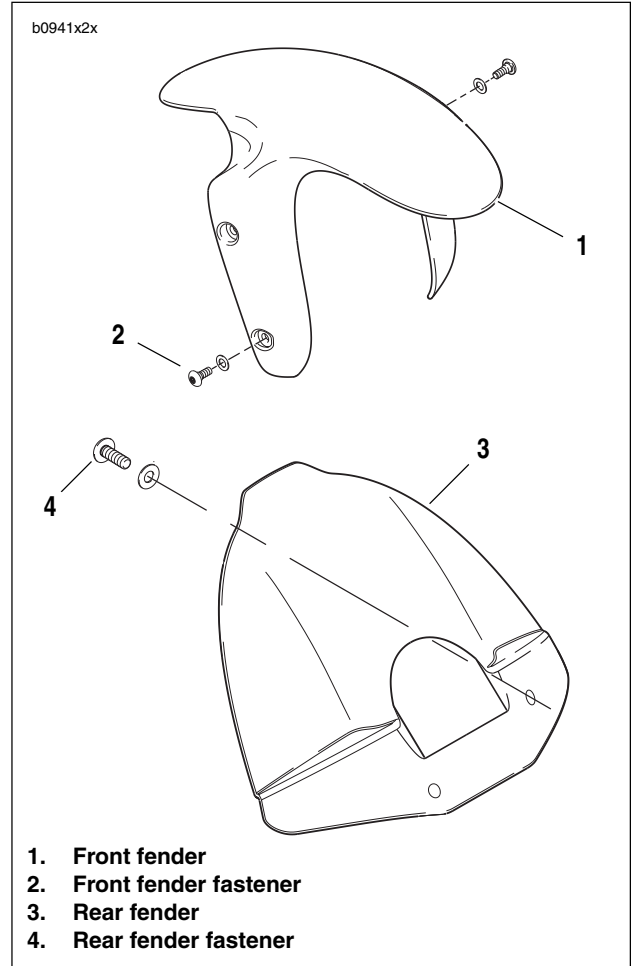

Figure 2-116. Front and Rear Fender
1. See Figure 2-116. Remove fasteners and washers (2) securing the front fender (1) to front forks.
2. Carefully remove front fender (1).
1. See Figure 2-116. Align front fender (1) to fender mounts on front forks.
2. Install front fender (1) with fasteners and washers (2) and tighten to 12-36 **in-lbs** (1-4 Nm).
2. See Figure 2-116. Remove fasteners and washers (4) securing the rear fender (3) to frame.
3. Remove rear fender (3).
1. See Figure 2-116. Align rear fender (3) to frame.
2. Install rear fender (3) with fasteners and washers (4). Tighten to 12-15 **in-lbs** (1-1.7 Nm).